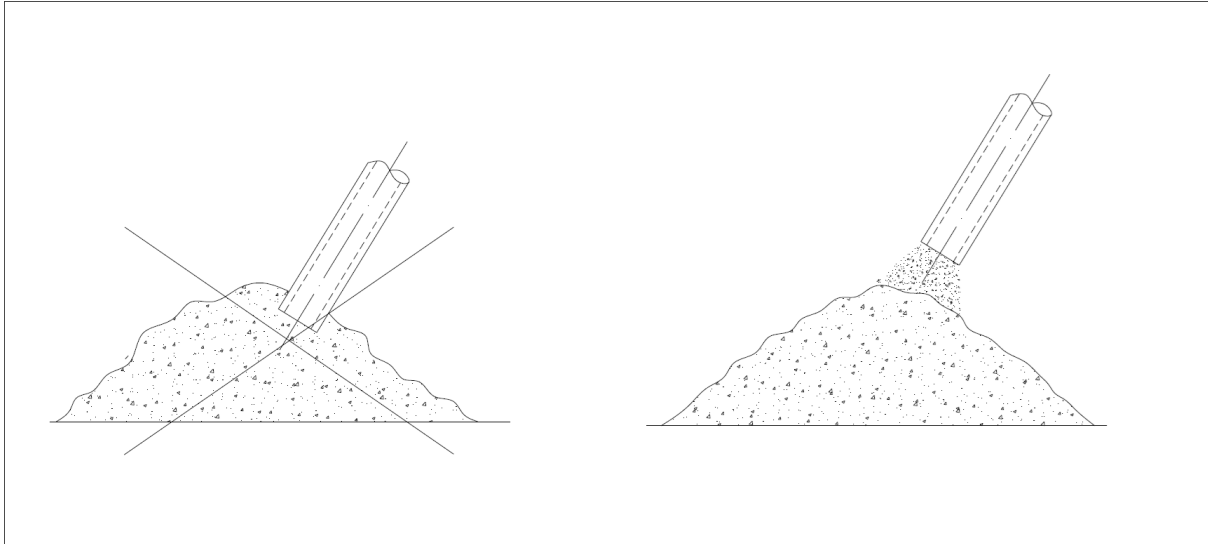

Figure 4
- During pumping, avoid immersing the tip in the concrete mass. (see figure 4)